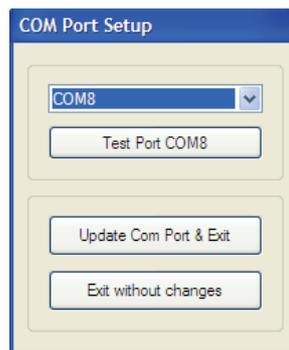

Fig. 5: COM Port Setup window
- In the COM Port Setup window (see Fig. 5) the user can choose the COM Port of the PPC5092 in the drop-down menu at the top. The connection to the module can be tested by pressing the **“Test Port COM#”** button. Finally the COM Port can be updated by pressing the **“Update Com Port & Exit”** button or left unchanged by pressing the **“Exit without changes”** button.